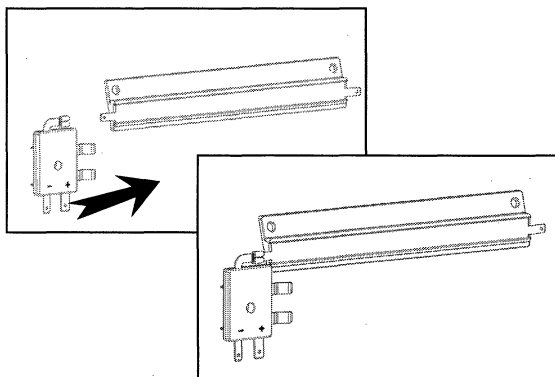

Fig. 1
2. Attach charge contact to the slow down strip (Fig. 1).
4. Slide charge contact assembly from Fig. 1 into back side of rail. Assembly will fit snugly against charge strip carrier.